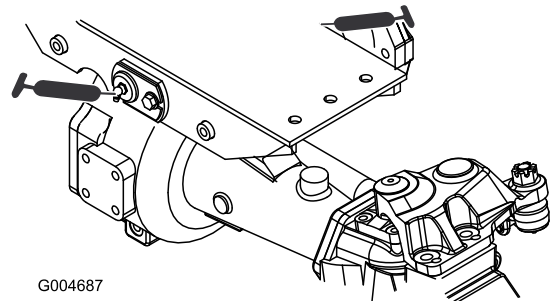

Figure 78
- 2 front and rear-axle-pivot bushings (Figure 78)